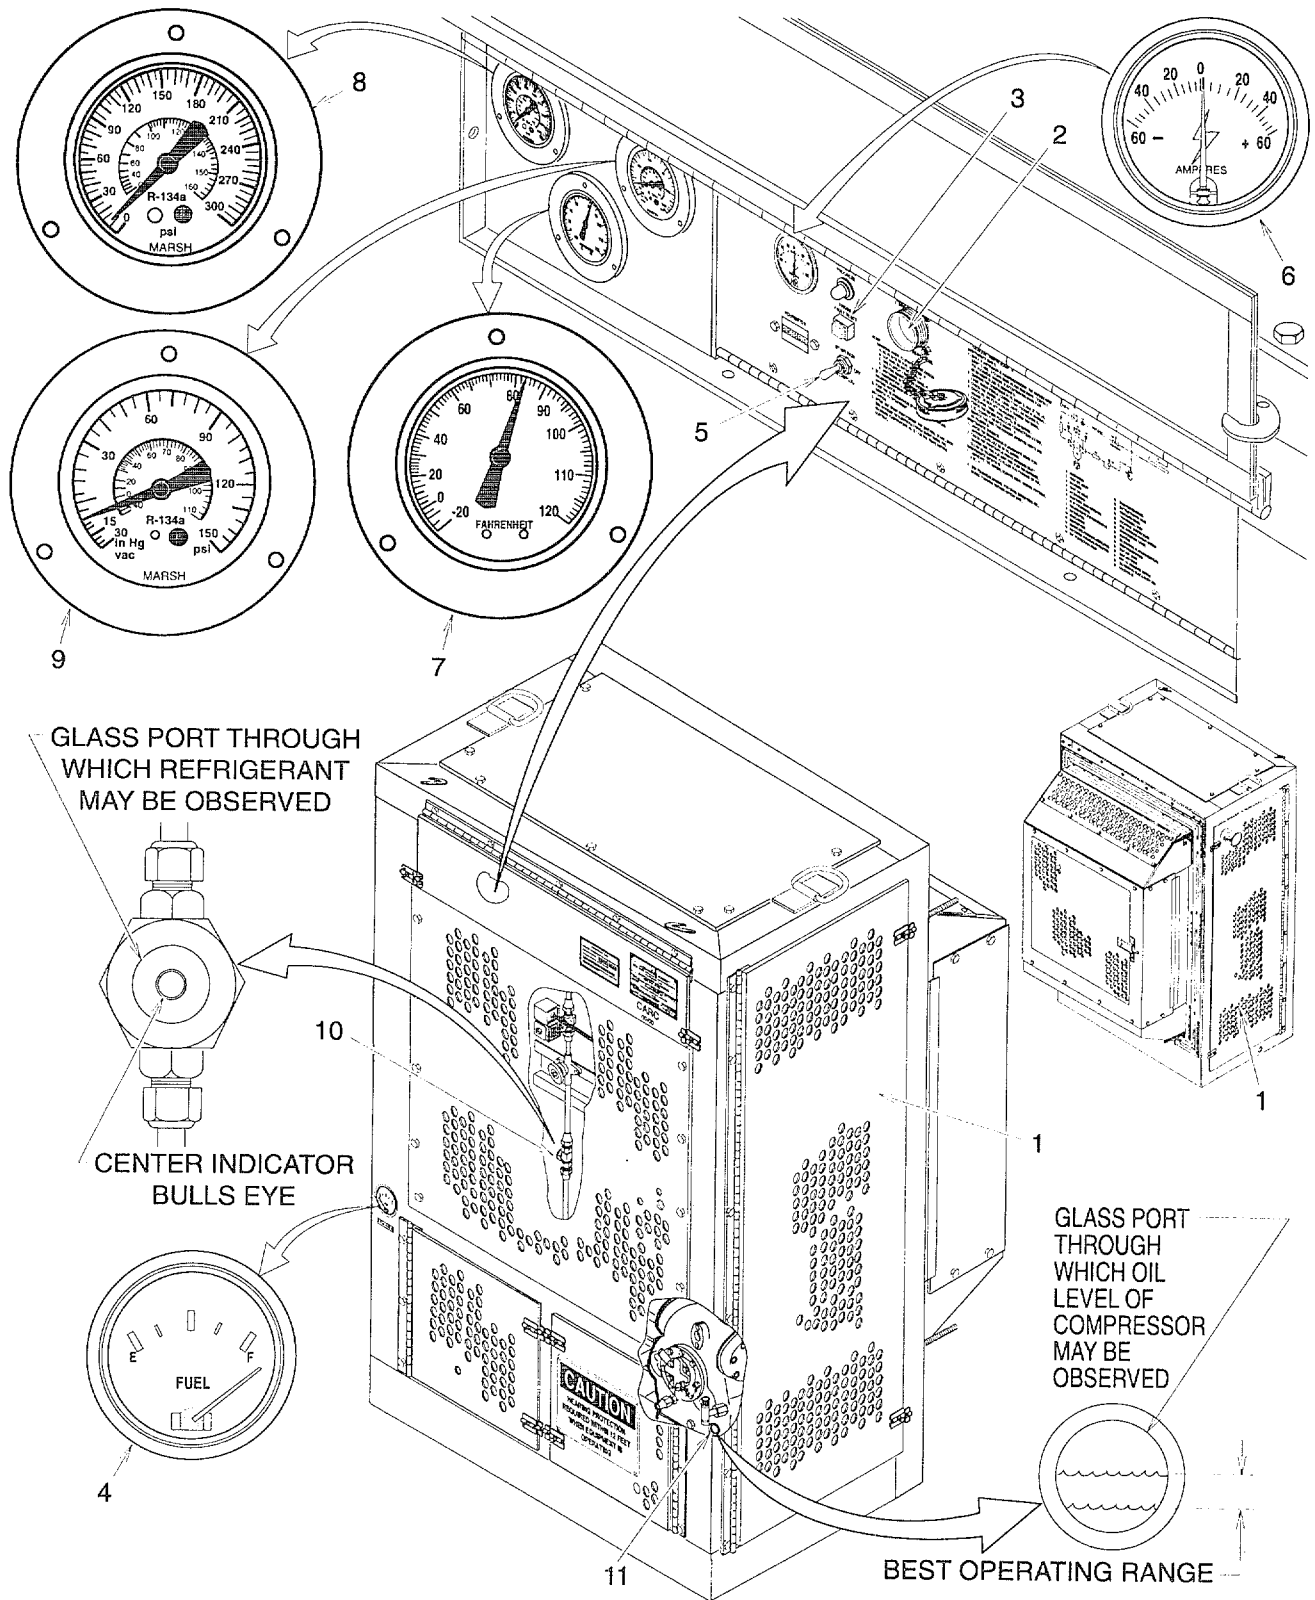

Figure 2-4. Operator Controls and Indicators
2-5. STARTUP PROCEDURES. See figure 2-4.
2-6. OPERATOR CHECKS. See figure 2-4.
2-7. SHUTDOWN PROCEDURES. See figure 2-4.**NOTE**
- The refrigeration unit engine produces dangerously high noise levels reaching 96 dB (A) at the service position. Approved hearing protection must be worn any time personnel are within 12 feet of an operating unit to avoid temporary or possibly permanent hearing damage.
- b. Cold Weather (40° F to 5° F (40 C to -15° C)). Before placing the toggle switch (START/RUN, OFF, GLOW PLUG) (5, fig. 2-4) handle in the START/RUN position, place and hold in the GLOW PLUG position for 30 seconds.
- (1) Notify unit maintenance to drain and fill the engine with appropriate lubricating oil for cold weather.
- (2) Notify unit maintenance to drain and fill the fuel tank with appropriate fuel for cold weather.
- (3) Before placing the toggle switch (START/RUN, OFF, GLOW PLUG) (5, fig. 2-4) handle in the START/RUN position, place and hold in the GLOW PLUG position for 30 seconds.